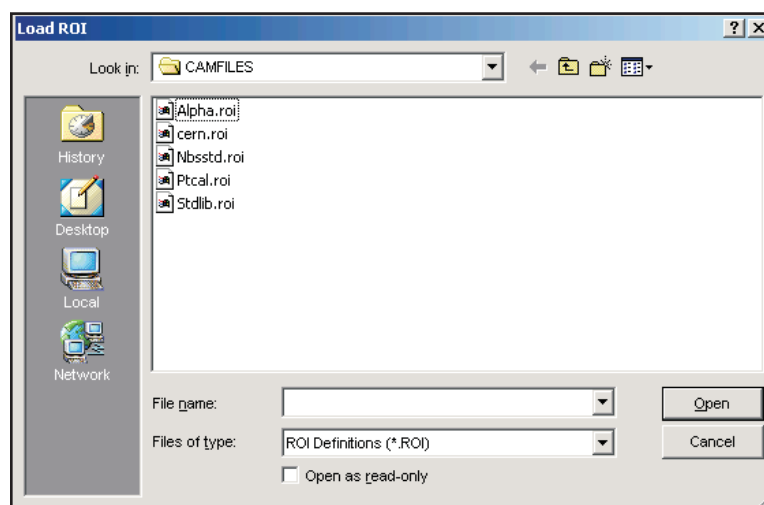

Figure 93 Selecting an ROI File
- Use the Edit | Load ROI function to select a local (on your PC) ROI file from which a set of ROIs will be loaded directly (Figure 93).